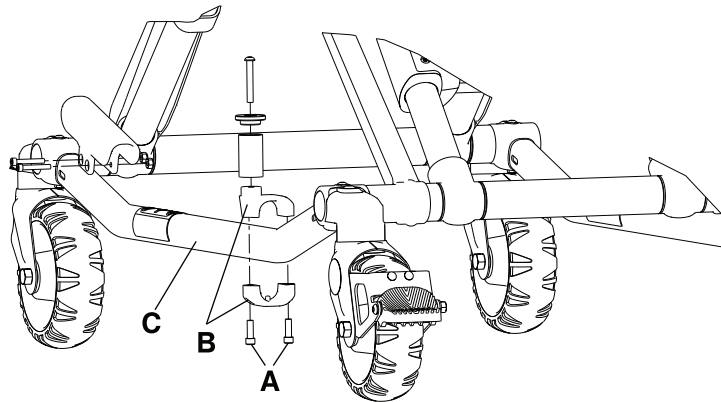

Figure 11: Cot retaining post
1. Using a T30 Torx driver, remove the two socket head cap screws (A) that hold the brackets (B) to the base frame (C) (Figure 11 on page 37). Save the screws.